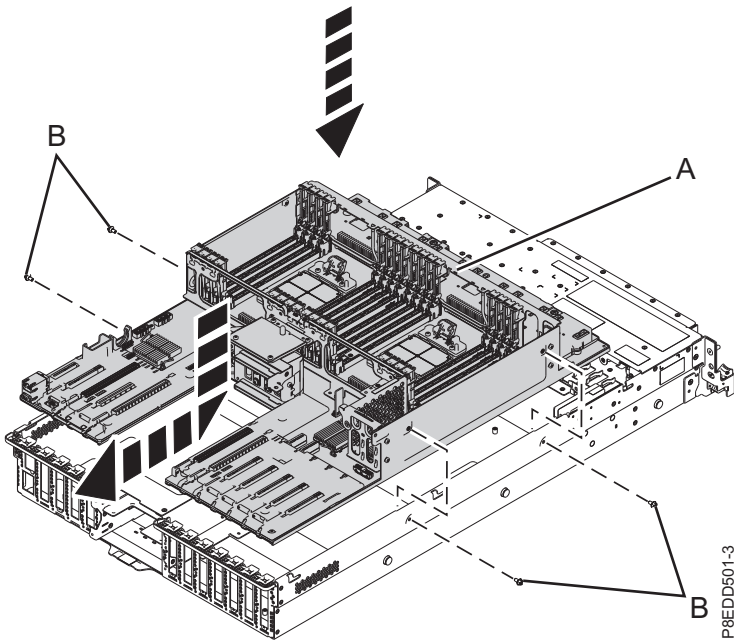

Figure 13. Installing the system backplane
- a. Grasp the top guide rail (A) and lower the backplane into position while you are sliding it toward the rear as shown in Figure 13 on page 16.
- b. Using a Phillips screwdriver, install and tighten four screws (B) to secure the backplane to the side of the chassis as shown in Figure 13 on page 16.